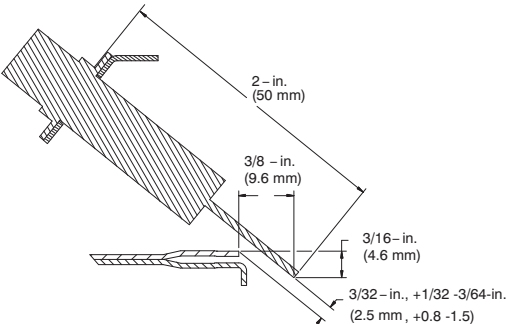

Fig. 10 – Igniter Position - Side View
4. Verify igniter to burner alignment, see Fig. 9 & Fig. 10.